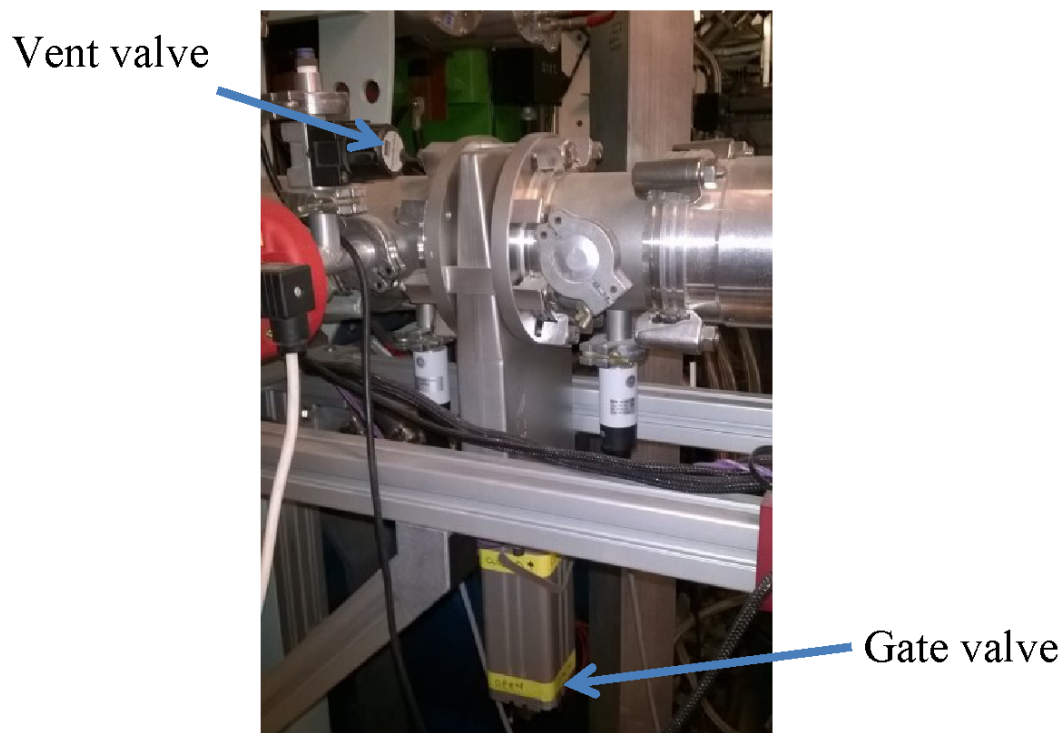

Figure 5: Vent valve and Gate valve
7. Close the cruciform vent valve (see Fig. 5).